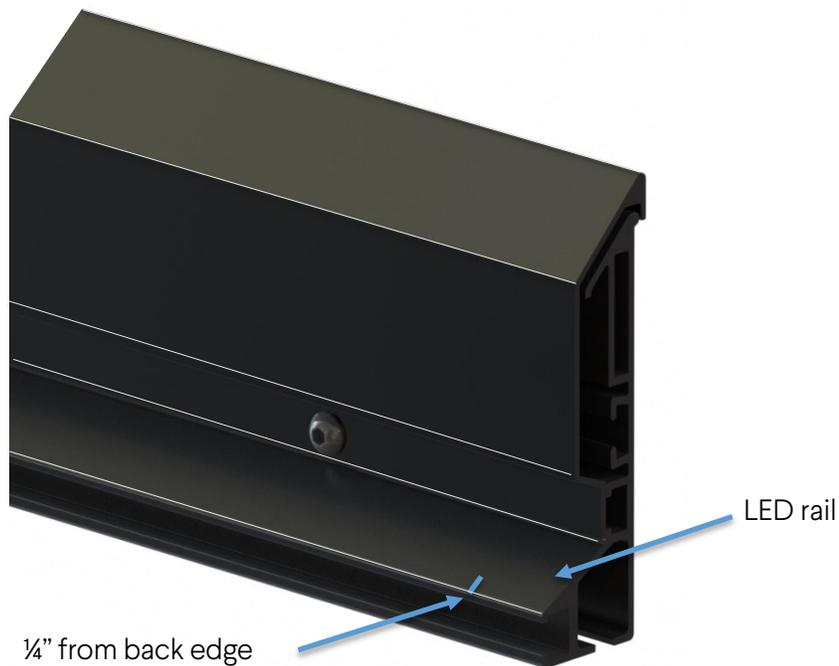

Figure 2: Cross section of Balón frame indicating LED rail
2. Begin at the LED rail and start laying down the adhesive side of the LED strip, about 1/4" away from the edge (see Figure 2).